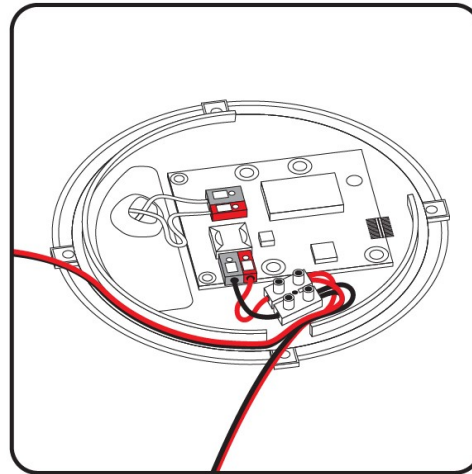

Figure 18: Option B
- **Using 16 AWG cable** – may require adding an electrical connector to split the DC power —see Figure 18: Option B.